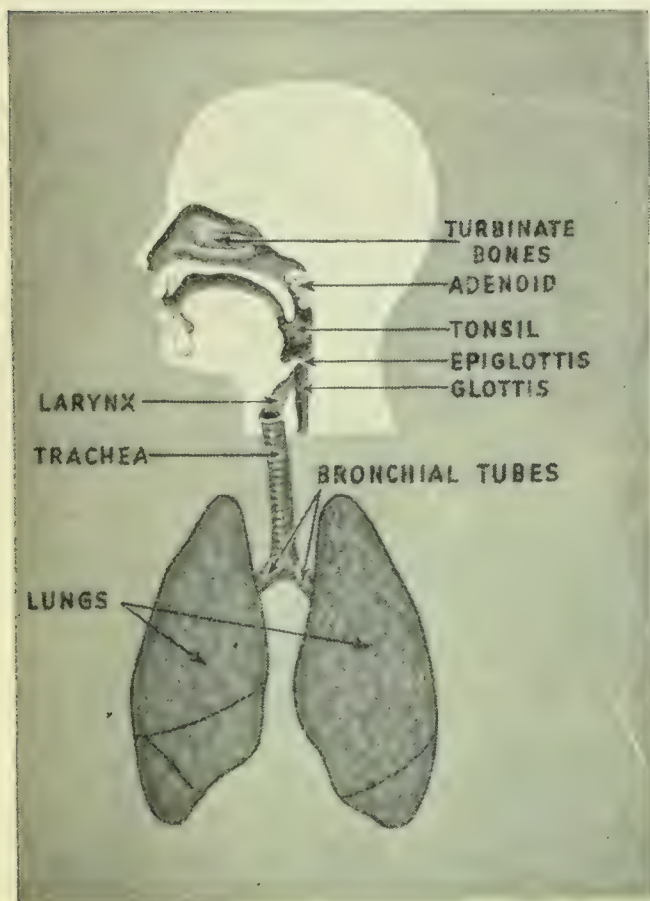

FIG. 131. The breathing system
Let us follow some air as you breathe it in. Figure 131 will help you get a clear picture of its journey. First the air goes into your nose, and then into your throat. In the throat the air goes down across the food tube and enters an opening in front of the esophagus, called the *glottis*. Just above the glottis is a little flap, called the *epiglottis*. This flap covers the glottis when we swallow, so that no food or water will go down into the lungs.
*Experiment 40. WHAT IS THE NATURE OF THE LUNGS?* (a) Examine the lungs of a sheep. These organs are about the size of a person’s lungs. Find a rather large tube, the windpipe, or trachea, connected to both lungs. This tube will sometimes have been split open by meat inspectors. If so, you will be able to see many little tubes leading into the lungs from the lower part of the windpipe. You will also be able to see the many rings of cartilage that held the windpipe open. (See Figure 131.) Feel the lungs with your fingers. Are they firm and heavy or light and spongy?
The actual surface of the inner nose is very great because of the projection of the *turbinate bones* (Figure 131) which extend into the nasal passage. These bones are covered with a thin,
If you have continued difficulty in breathing through the nose, you should ask a physician to examine the air passages. Sometimes they are deformed and partially closed by nose injuries suffered in childhood. In other cases they are almost entirely closed by large adenoids. Adenoids are masses of tissue at the back of the nasal passages (Figure 131). Their removal is a simple operation for a skilled physician.